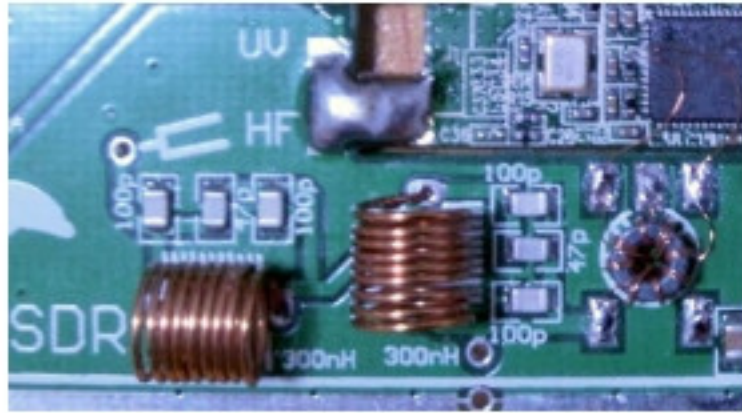

Figure 13
Step 9: Solder two low-pass filter coils on the circuit board.The coil spacing should be drawn as wide as the pins.Then low-pass filter part of the production is complete.(Reference Figure 13)